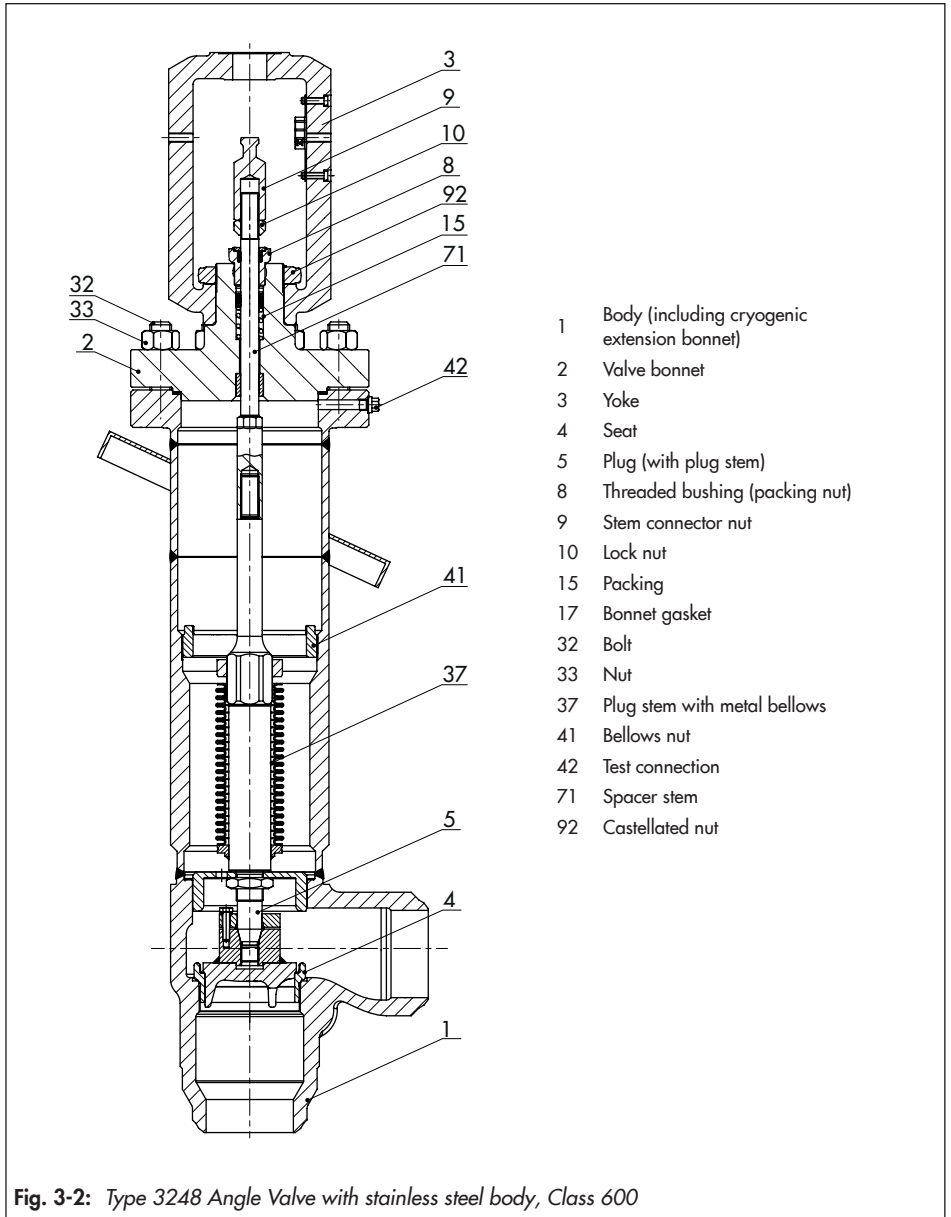

Fig. 3-2: Type 3248 Angle Valve with stainless steel body, Class 600
- Globe or angle valve with stainless steel body, NPS 1 to 6, Class 600 (see Fig. 3-2)
In the Class 150 to 300 version, the valve bonnet (2) is designed as a yoke (see Fig. 3-1). In the Class 600 version, the valve bonnet (2) is designed as an intermediate piece. A yoke (3) is fastened onto the valve bonnet with a castellated nut (92) (see Fig. 3-2).